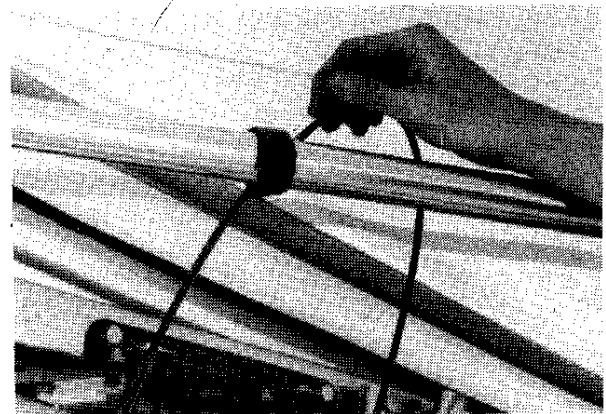

Figure 2.63
71. Secure throttle cable at diagonal strut using a Velcro tab. Be sure cable makes no tight bends. **Figure 2.63**